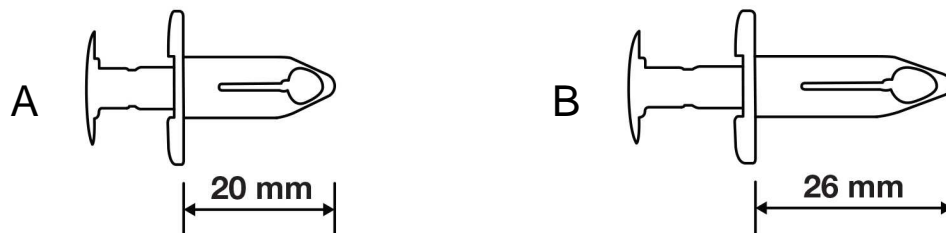

Figure 3
7. Insert the trim piece and fasten with provided plastic push clips, note the position A or B corresponding to the respective clip size shown in **Figure 3**. Lower air dam may be omitted by removing j-nuts from the air dam and replacing them on the lower lip of the bumper then inserting the bolts through the trim piece and into j-nuts. If the lower air dam is to be reinstalled, it must be cut, follow the notches in the BOSS trim piece as a guide, then reinstall the factory hardware. There will be extra hardware that needs to be saved and stored with the factory trim piece. If necessary, install license plate on the replacement trim using the factory hardware or suitable screws.